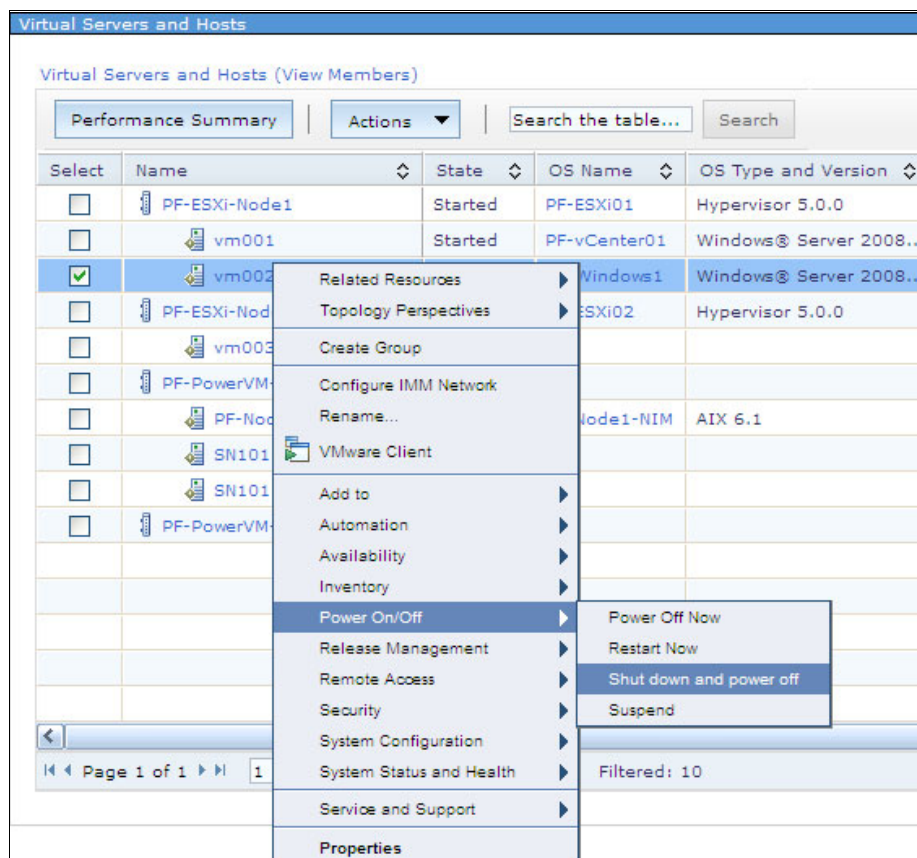

Figure 11-39 Shut down and power off menu item in the Virtual Servers and Hosts window
1. Right-click the virtual server **vm002** and select **Power On/Off** → **Shut down and power off**, as shown in Figure 11-39. This process starts a graceful OS shutdown before powering off the virtual server.